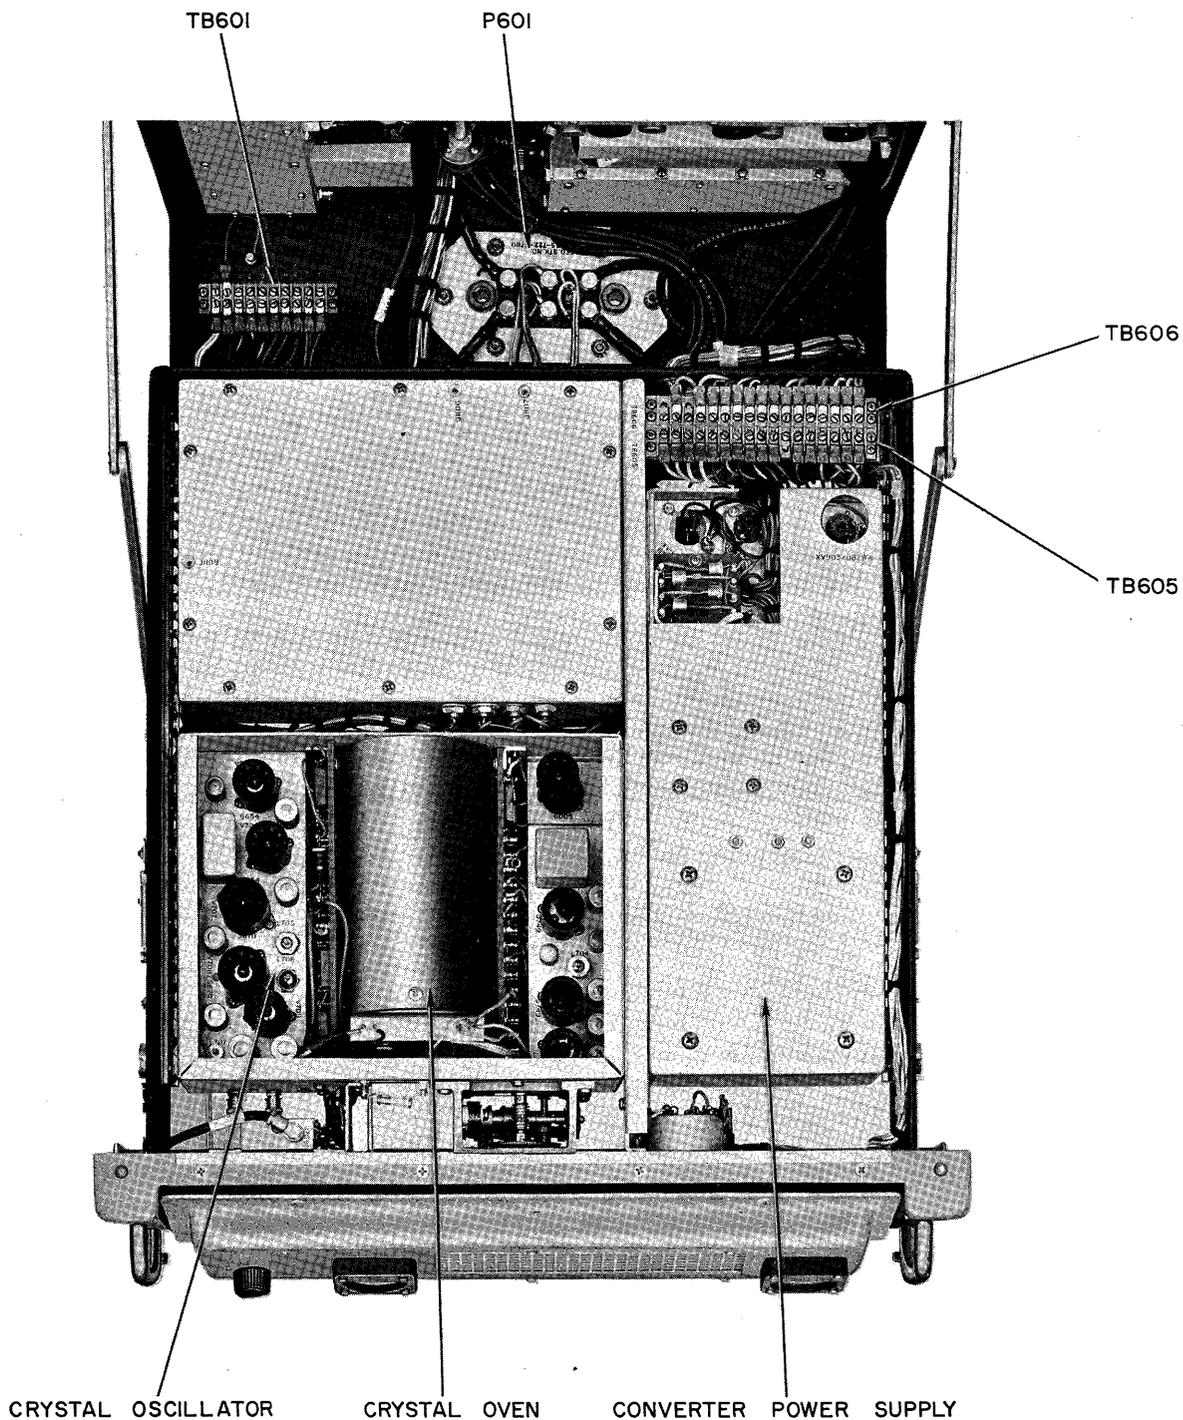

Figure 6-5. Converter Drawer, Upper Deck, Bottom View
(1) Pull out converter drawer and lock it in place. Tilt the upper deck 70 degrees to expose the bottom of the upper deck and the synthesizer subassembly (figure 6-5).
(2) Unsolder coded leads from feed-through capacitors C803, C815, C830, and C832.
(3) Lower the upper deck to its horizontal position against the top of the lower deck. This exposes the top of the upper deck for removal of coax cables and for loosening of Dzus fasteners of the subassembly.
(4) Remove the following plugs from jacks of the synthesizer subassembly: P801 of coax cable W616 from jack J801; P804 of coax cable W623 from jack J804; P805 of coax cable W620 from jack J805; P811 of coax cable W619 from jack J811; and P815 of coax cable W617 from jack J815.
(5) Loosen captive Dzus fasteners, remove bracket from apron of converter power supply, and remove the synthesizer subassembly from the top of the converter drawer upper deck.
(1) Pull out converter drawer and lock it. Tilt the upper deck 70 degrees.
(2) Remove connecting lugs of the converter power supply cable from terminal board TB605, which becomes accessible on tilting the upper deck as noted in figure 6-5. Code leads for future reinstallation.
(3) Lower upper deck to horizontal position against top of lower deck.
(4) Unlock Dzus fasteners of the power supply subassembly, and remove the subassembly from the top section of the upper deck.